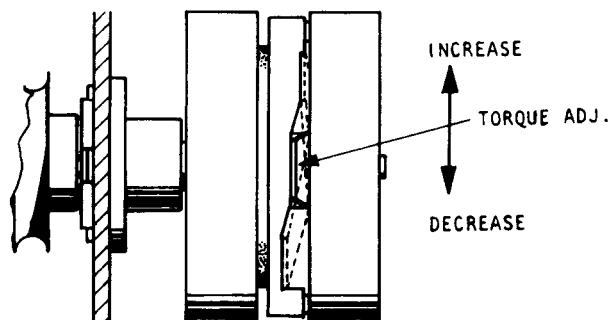

Fig. 6.1
- (2) Take-up Torque should be  $40 \pm 10$ g-cm.
- (3) To adjust torque, move take-up spring as shown in Fig. 6.1.
- (4) If torque is not sufficient during play mode, bend the take-up spring equally or replace the take-up spring.